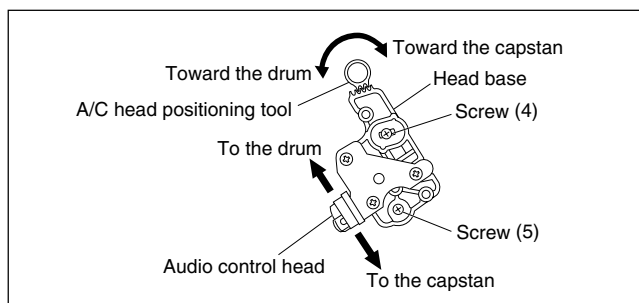

Fig. 2-3-3a
- (1) Play back the alignment tape (A1).
- (2) Apply the external trigger signal to D.FF (E), to observe the V.PB FM waveform at the measuring point (D).
- (3) Press the channel buttons (+, -) simultaneously to enter the manual tracking mode. This also brings tracking to the center (centre).
- (4) Loosen the screws (4) and (5), then set the A/C head positioning tool to the innermost projected part of the A/C head. (See Fig. 2-3-3a.)
- (5) Turn the A/C head positioning tool fully toward the capstan. Then turn it back gradually toward the drum and stop on the second peak point position of the V.PB FM waveform output level. Then tighten the screws (4) and (5).
- (6) Perform the tracking operation and make sure that the V.PB FM waveform is at its maximum. If it is not at maximum, loosen the screws (4) and (5), and turn the A/C head positioning tool to bring the A/C head to a position, around where the waveform reaches its maximum for the first time. Then tighten the screws (4) and (5).
**[Perform adjustment steps (7) to (10) only for 2 Head models equipped with LP mode.]**
- (7) Then play back the alignment tape (A2).
- (8) Press the channel buttons (+, -) simultaneously to enter the manual tracking mode. This also brings tracking to the center (centre).
- (9) Perform the tracking operation and make sure that the V.PB FM waveform is at its maximum.
- (10) If it is not at maximum, loosen the screws (4) and (5), and turn the A/C head positioning tool to bring the A/C head to a position, around where the waveform reaches its maximum for the first time. Then tighten the screws (4) and (5).
- After adjusting, always perform the confirmation and re-adjustment of the item 2.3.4.